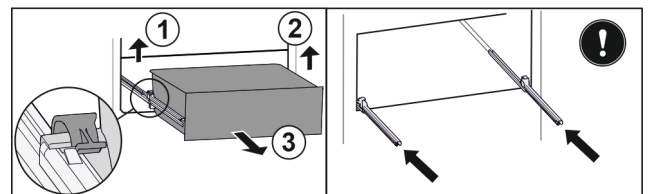

Fig. 119
- Lift left clamp and simultaneously pull drawer forwards on the left. Fig. 119 (1)
- Lift right clamp and simultaneously pull drawer forwards on the right. Fig. 119 (2)
- Remove drawer to the front. Fig. 119 (3)